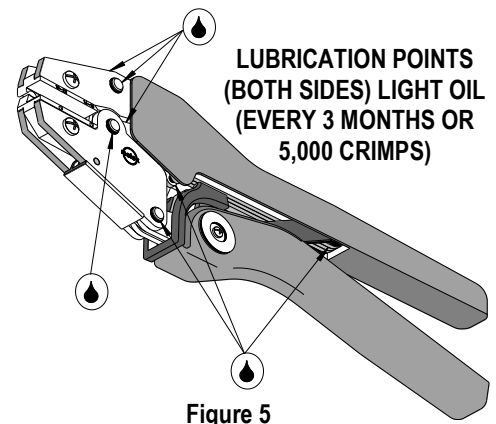

Figure 5
3. Make certain all pins; pivot points and bearing surfaces are protected with a thin coat of high quality machine oil. Do not oil excessively. This hand tool was engineered for durability, but like any fine piece of equipment, it needs cleaning and lubrication for a maximum service life of trouble-free crimping. A light oil, such as 30 weight automotive oil used at the oil points shown in Figure 5, every 5,000 crimps or 3 months will significantly enhance the tool life and ensure a stable calibration.
Should this tool ever become stuck or jammed in a partially closed position, **Do Not force the handles open or closed**. The tool will open easily by lifting the ratchet release lever (See Figure 5).
A Certificate of Calibration (see last page) was supplied with the tool. To recalibrate this Tool, measurements should be taken from each conductor nest and compared to this chart. The tool should be lubricated before recalibration to ensure consistent measurements. Handle preload is factory set to 25-45 LBS. See How to Adjust Tool Preload (see Figure 5) to recalibrate.